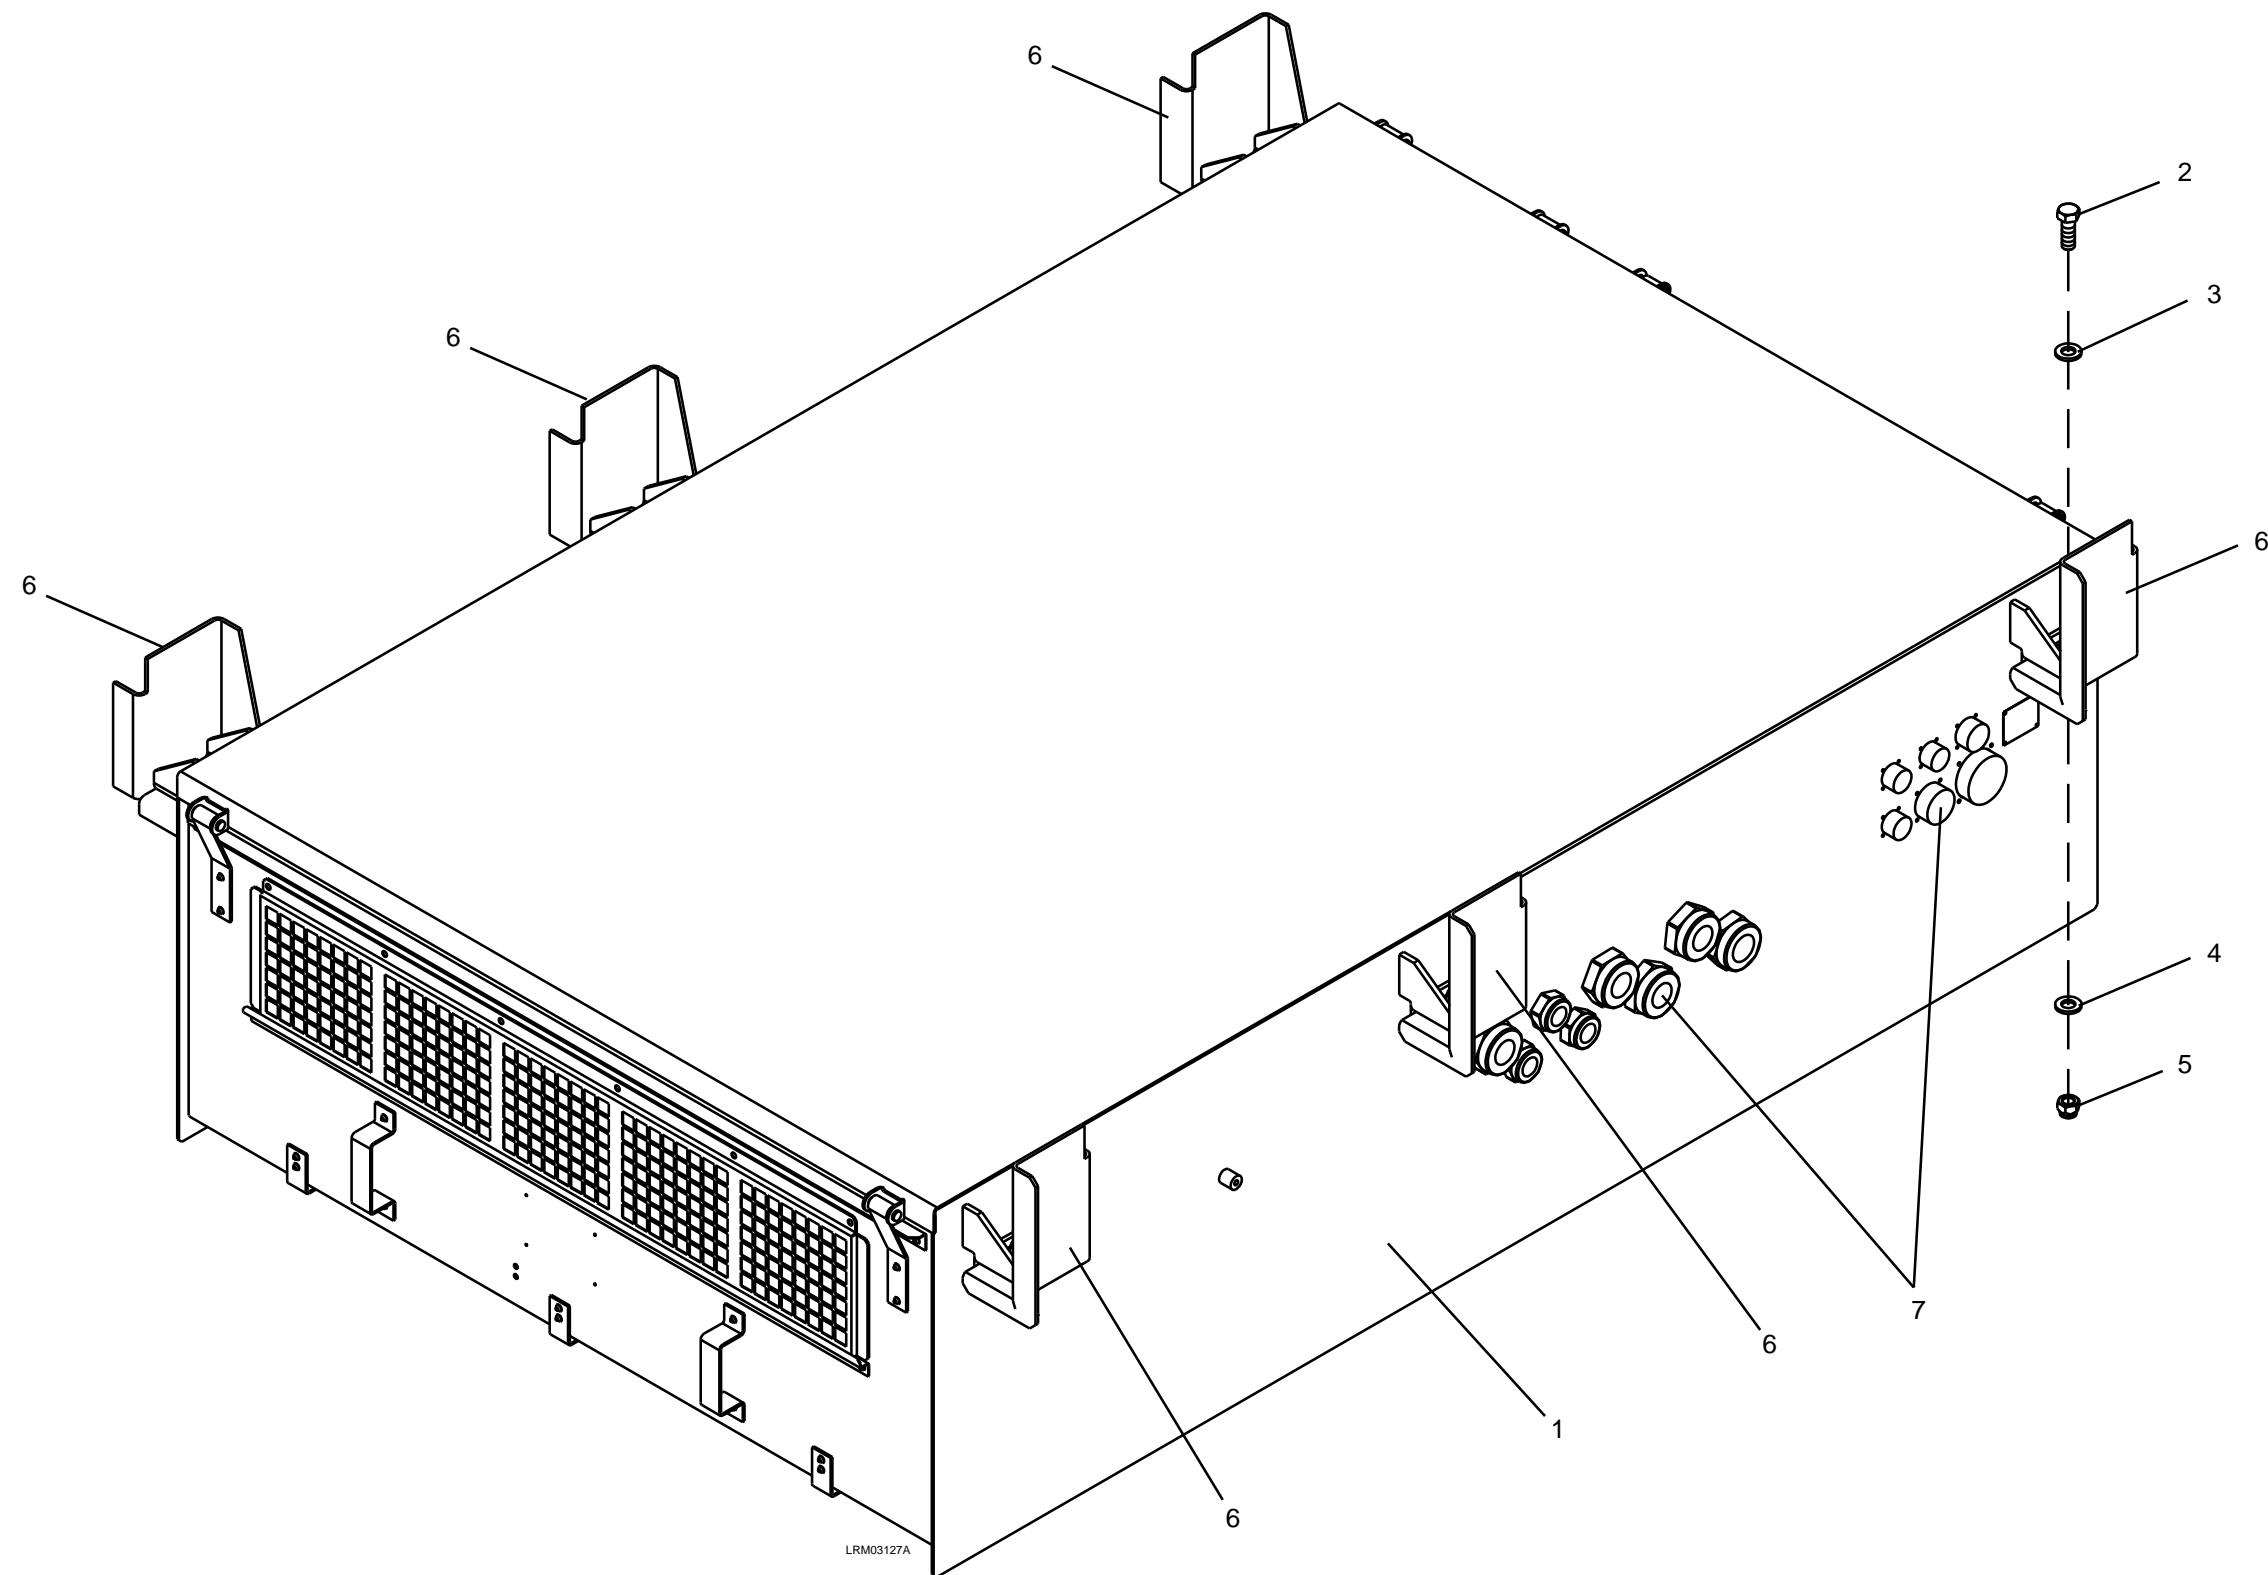

Figure 7-113: Propulsion Inverter
2. Remove the four M16 ESNA nuts (5) and M16 plain washers (4), M16 x 45 bolts (2), and M16 plain washers (3). See Figure 7-113.
3. Carefully remove the Propulsion Inverter (1) from the mounting brackets (6). Refer to Section 0700, Propulsion of the Heavy Repair Maintenance Manual for additional information.